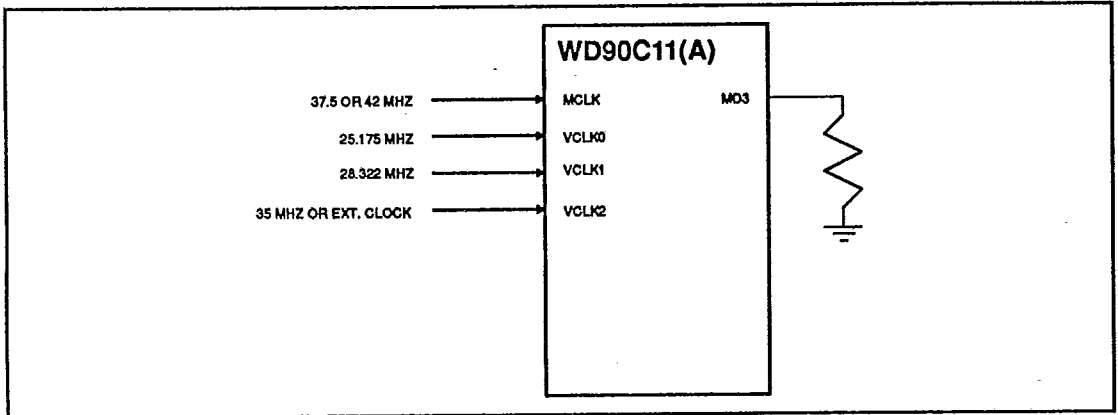

FIGURE A-9. CLOCK INTERFACE
Figure A-9 illustrates the WD90C11(A) with external oscillators at the clock pins configured as inputs. The clock selection is determined by register 3C2H bit 3 and bit 2. It is described by the table below: